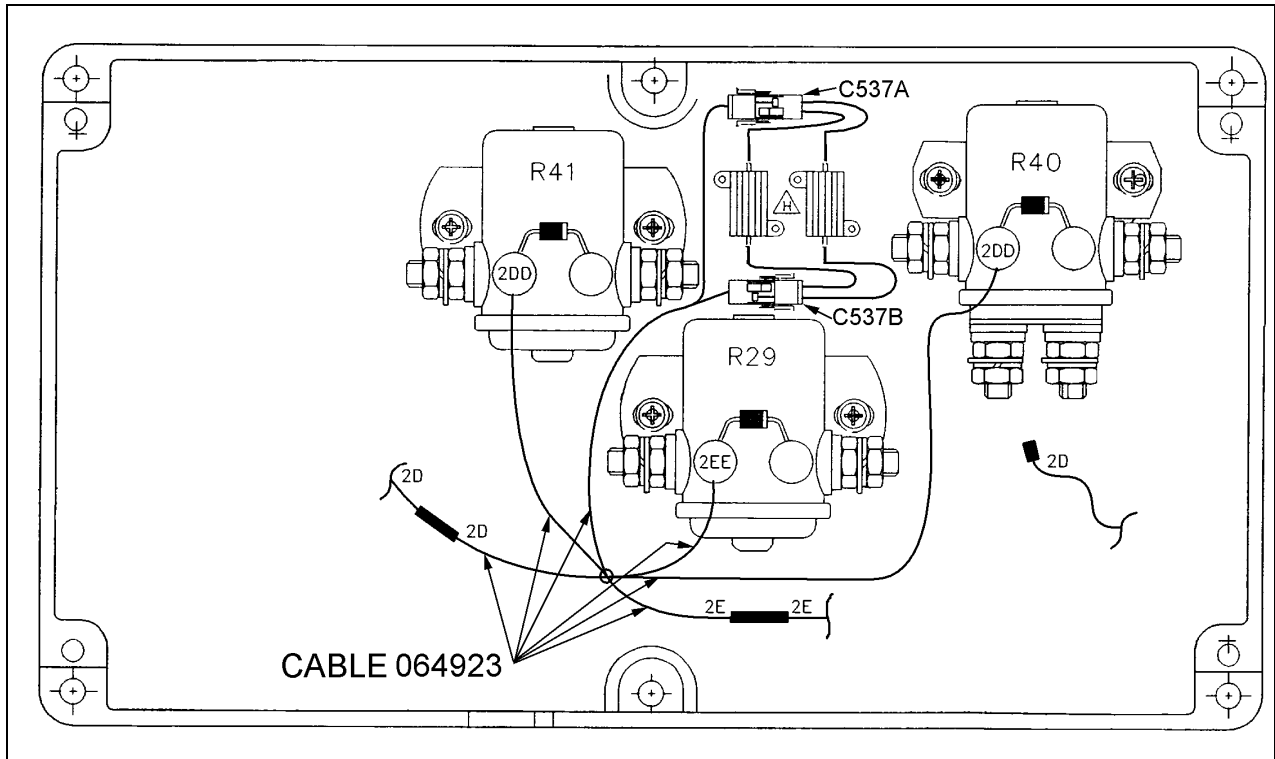

Figure 7: Final aspect of the A/C junction box. Only new connections are shown.
6. Plug wires 2DD pertaining to #064923 cable into R40 and R41 relays, as shown on figure 7.
7. Plug wire 2EE pertaining to #064923 cable into R29 relay, as shown on figure 7.
8. Fasten both electrical resistors above R29 relay using #500798 screws (figure 7). Plug the electrical resistors to C537 A and B connectors.